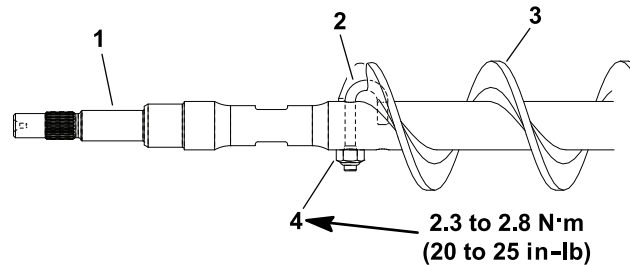

Figure 196
2. If roller brush was removed from roller shaft, slide brush onto shaft while rotating brush. Secure brush to shaft with two (2) J-bolts and lock nuts. Make sure that the J-bolts are installed with the threaded portion on the outside of the brush (Figure 196). Torque lock nuts from **2.3 to 2.8 N·m (20 to 25 in-lb)**.